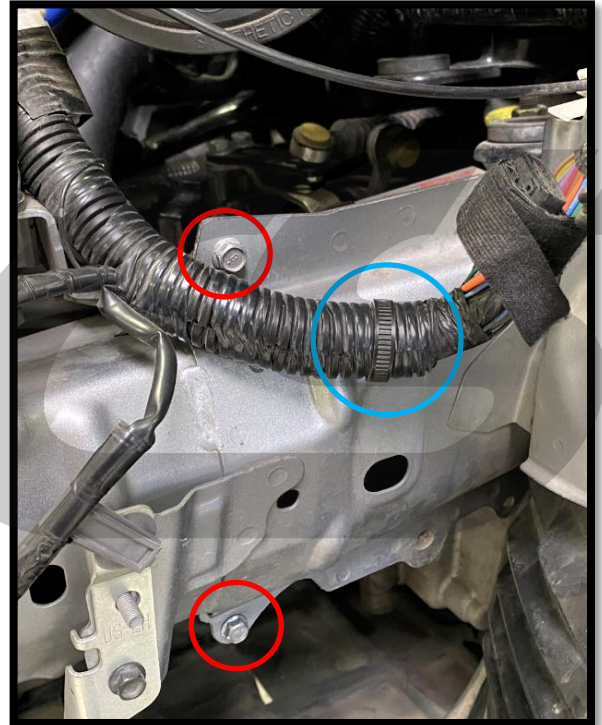

Figure 4a
If you have an OCC mounting in the location shown in Figure 4a, you will need to relocate it at this time.
- a) Remove two 10mm bolts from the frame rail. Shown **circled in red** in **Figure 4a**.
- b) Unclip the wiring harness from its mounting point on the frame rail. Location of wiring harness clip **circled in blue** in **Figure 4a**.